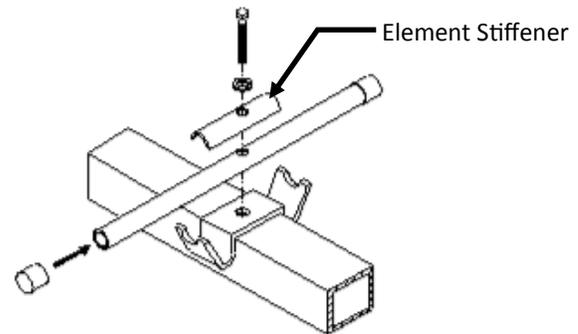

Figure 1: Director Assembly Detail
1. Tap the end-plugs onto the ends of the tubular director elements, if desired, and assemble the elements to the crossarm using a single long hex-bolt as shown in Figure 1. Do not over tighten the hex bolts